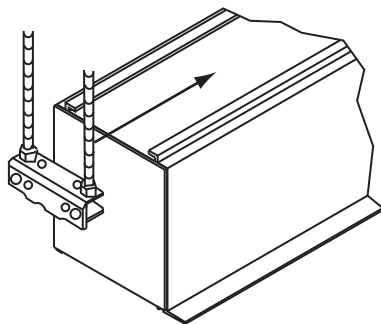

Figure 1
- ① Position brackets at a 45° angle on the top of the rear housing, then rotate into place in the grooves provided (see Fig. 1).
- ② Locate bracket as required for threaded rod, chain, or cable, and tighten set screws to hold bracket in place.